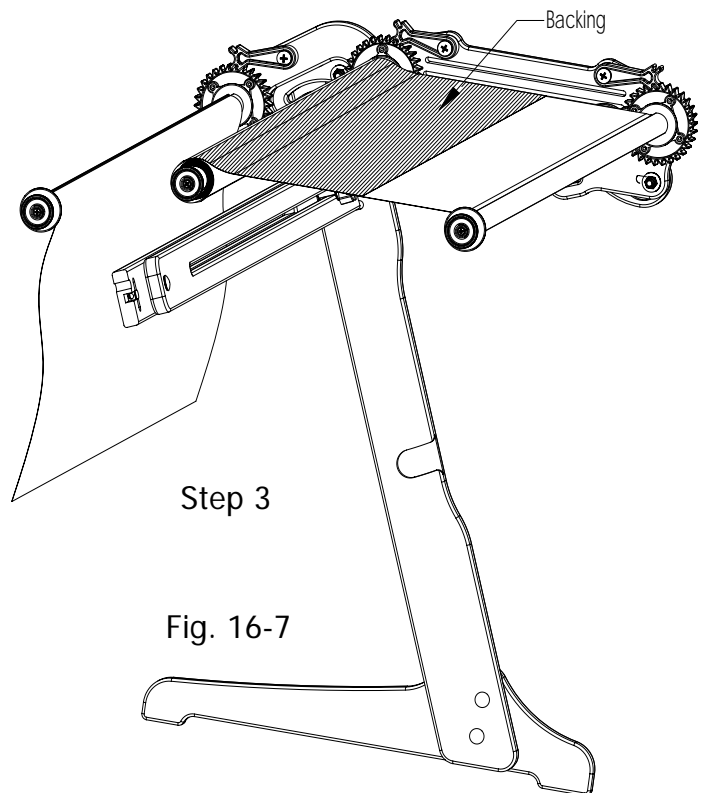

Fig. 16-7
Place the center mark of the backing to the center of the front rail leader. Lay the fabric naturally and evenly along the straight line of the leader cloth. Do not stretch the fabric. Pin the fabric to the cloth leader, as shown in Fig. 16-7.
2. Backing to front rail (Fig. 16-7 pg. 21)